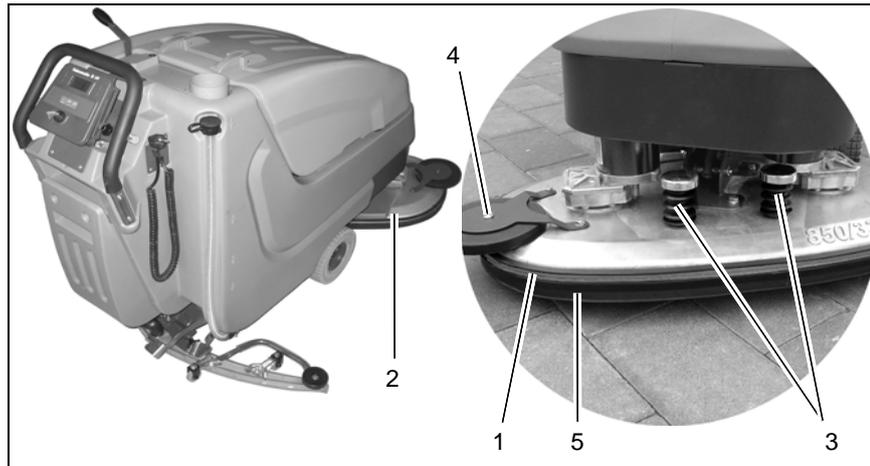

Fig.10
Clean brushes of the brush head (Fig. 10/2) at daily intervals or as required.
1. Use pedal (Fig. 10/1) to lift out brush head.
2. Press brush ejectors (Fig. 10/3) down to remove brushes for cleaning.
2. Press brush ejectors (Fig. 10/3) down to remove old brushes.
Check deflector roller (Fig. 10/4) at weekly intervals or replace as required.
Check sealing strip (Fig. 10/5) at weekly intervals or as required. Before doing so, open toggle-type fastener and remove sealing strip. Proceed to mounting in inverse order.